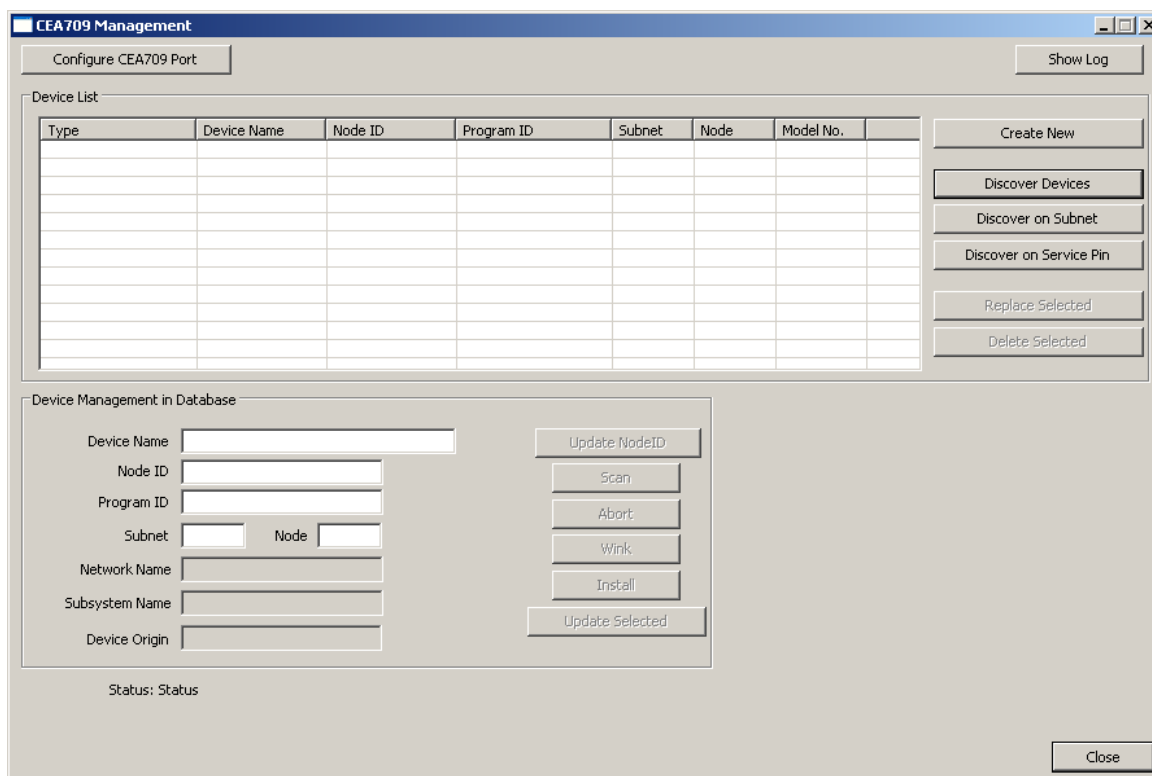

Figure 98: CEA-709 network scan dialog.
- Right-click on that folder and select **Scan CEA709/852 Network....** This opens the **CEA709 Management** dialog as shown in Figure 98.